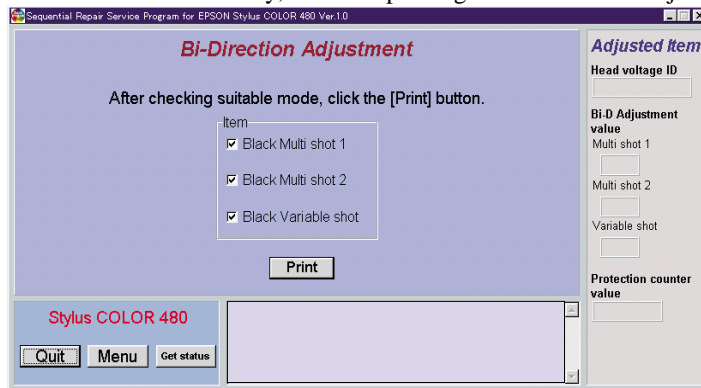

Figure 5-27. Bi-d adjustment menu
12. After input the suitable pattern number, click the “Retry” button to return the Bi-directional check pattern print menu of Figure 5-27. When the “Print” button is clicked for the 2nd check pattern printing, following message is displayed. When the same paper used for 1st check pattern printing is set in the ASF and click the “OK” button in the following message, printer advances the paper under the 1st check printed pattern and the 2nd check pattern is printed on from the position.